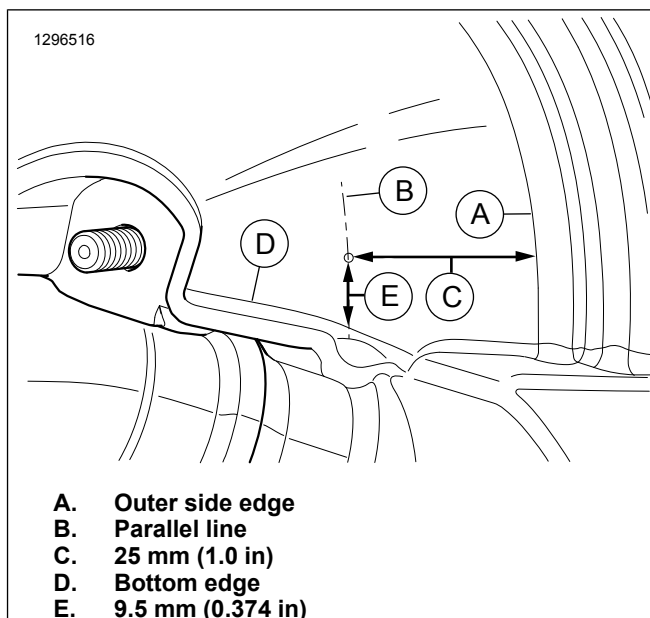

Figure 10. Drill Location
12. See Figure 10. From the outer side edge (A), mark a parallel line (B) at the specified distance (C).